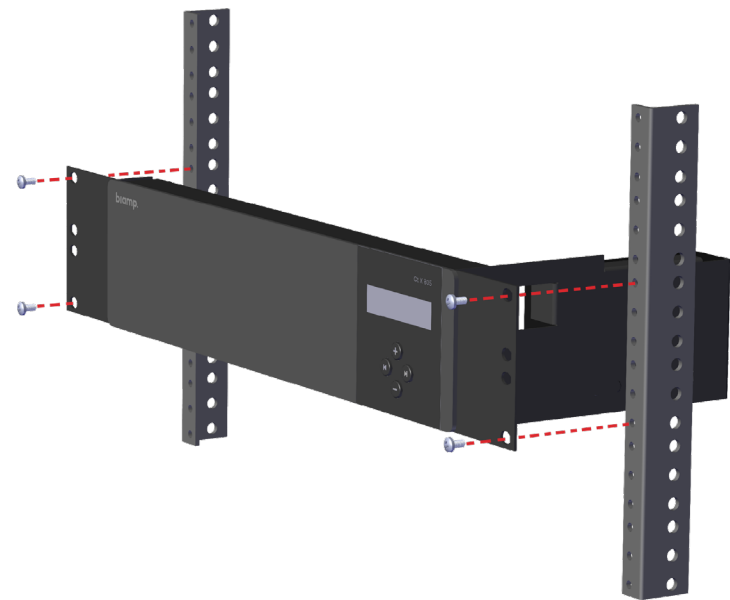

Figure 31. Attach controller assembly to the rack (hardware not provided)
5. Secure the Qt X device to the rack via the rack ears as shown in Figure 31. Hardware to attach the unit to the rack is not included. Plug power cord into the rear of the power supply.